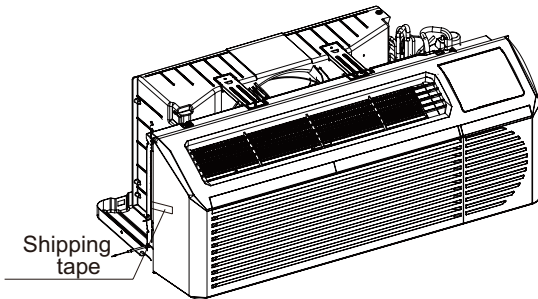

Fig. 6 – Shipping Tape Location
1. Carefully remove shipping tape from the front panel and vent door. See Fig. 6.